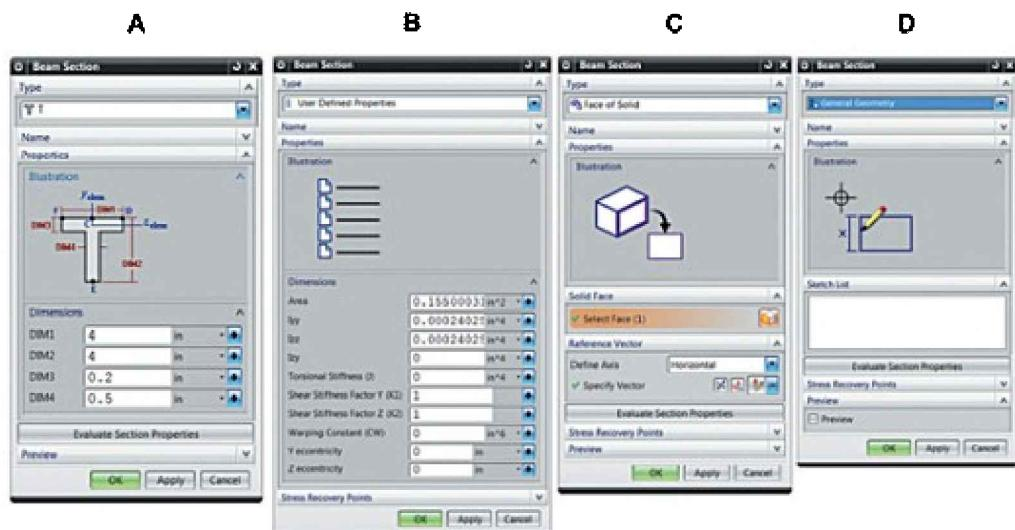

Figure 3.56. Creating the cross sections
- You can use a section shape from the standard section library. In this case it is enough to specify the necessary dimensions (Figure 3.56, A).
- You can specify *User Defined Properties*. In this case you specify only the properties of the section but not its shape (Figure 3.56, B).
- You can select *Solid Face* to create arbitrarily-shaped sections based on a pre-created face of a body (Figure 3.56, C).
- You can use the *General Geometry* method to select one of pre-created sketches as the section shape (Figure 3.56, D). In this case you can simplify the task by using so-called layers, one of which contains the necessary sketch. After you select the sketch, you can hide the corresponding layer.